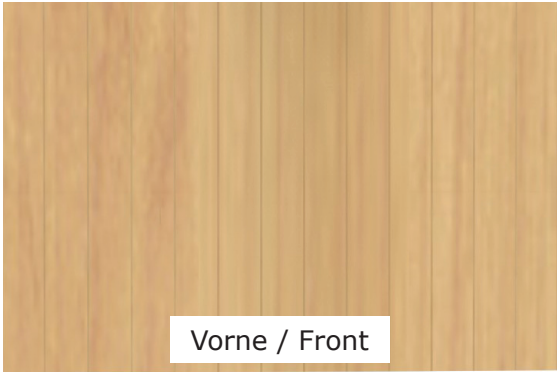

Fig. 1
2. Place the bottom panel on the desired position and take care, that the bottom panel is aligned to the front (Fig. 1).